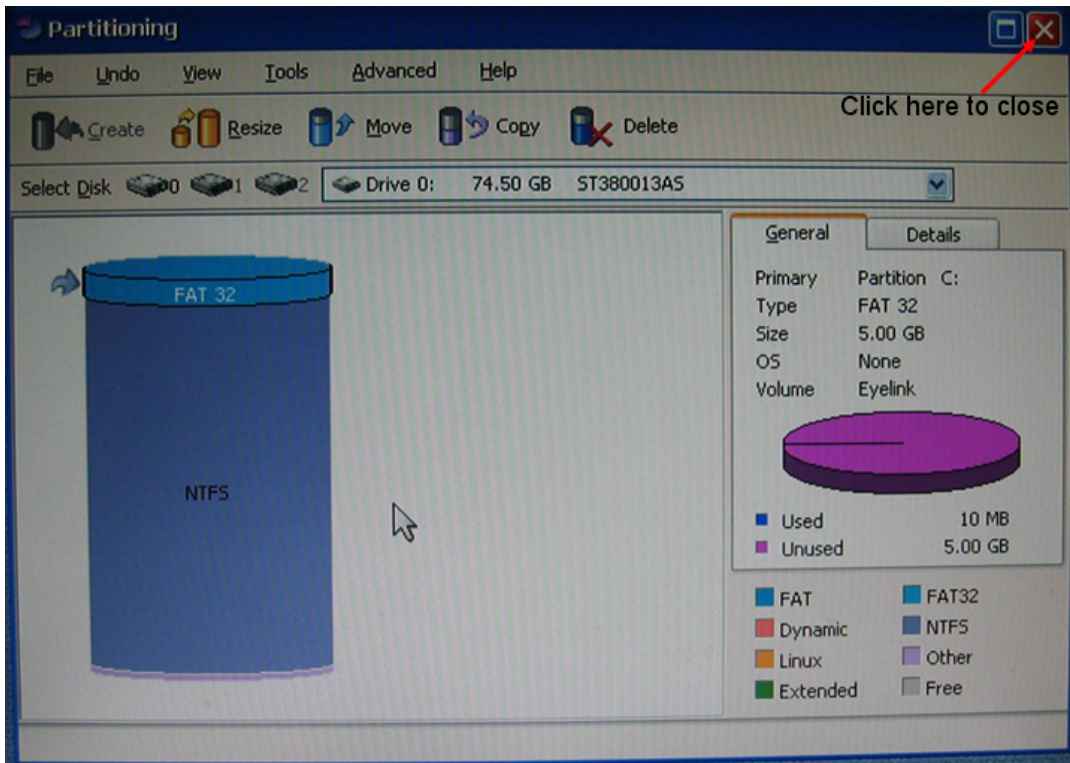
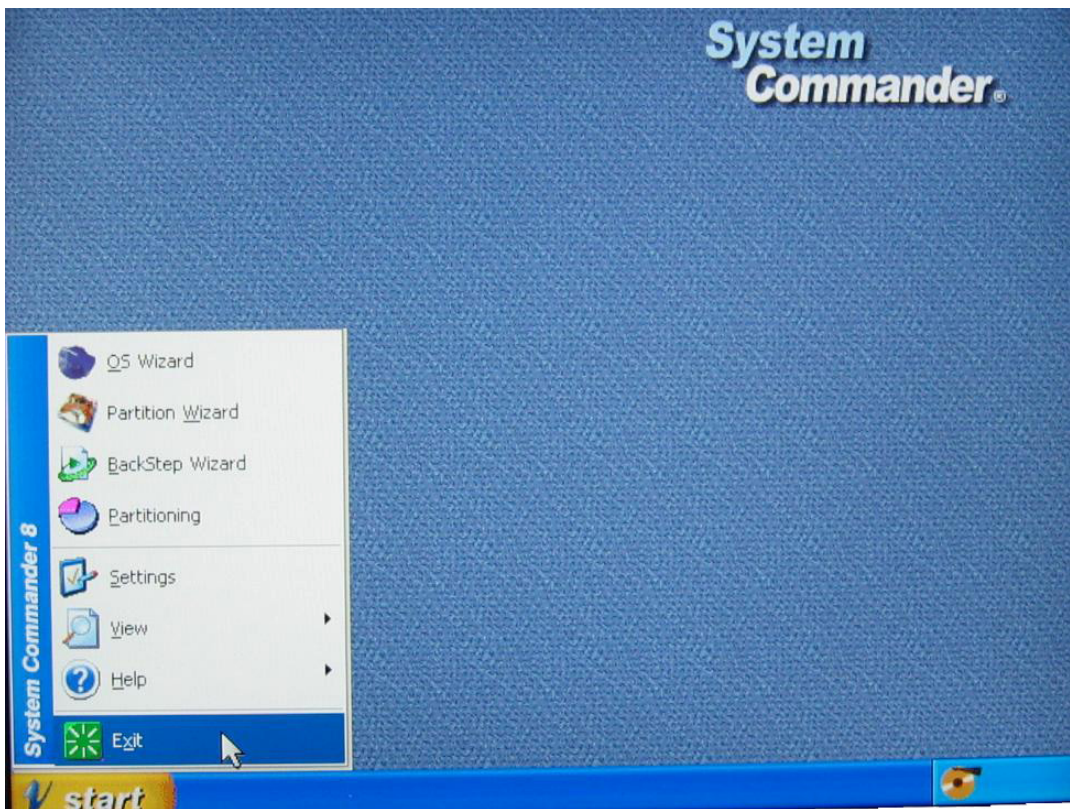

Figure 4-10 Close Partitioning
Figure 4-11 Exit
6. Close the 'Partitioning' window by selecting the red "X" in the top right corner as illustrated in Figure 4-10. Exit System Commander by clicking "Start" at the bottom-left corner of the screen and then select the "Exit" option as illustrated in Figure 4-11.